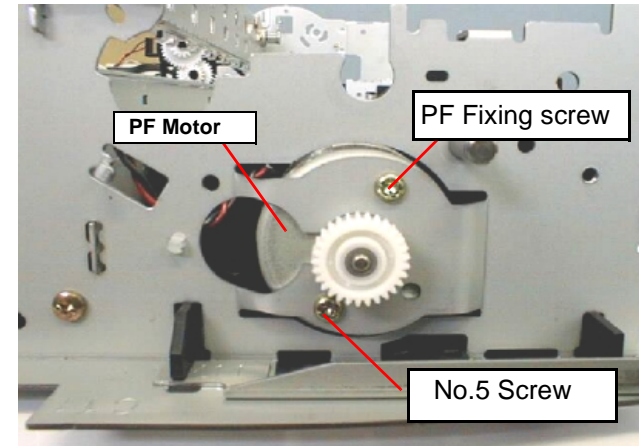

Figure 4-60. Removing the PF Motor
- 6) Remove No.5 screws & PF motor fixing screw securing the PF Motor while holding it and remove it from the Left Side Frame. Refer to Figure 4-60.